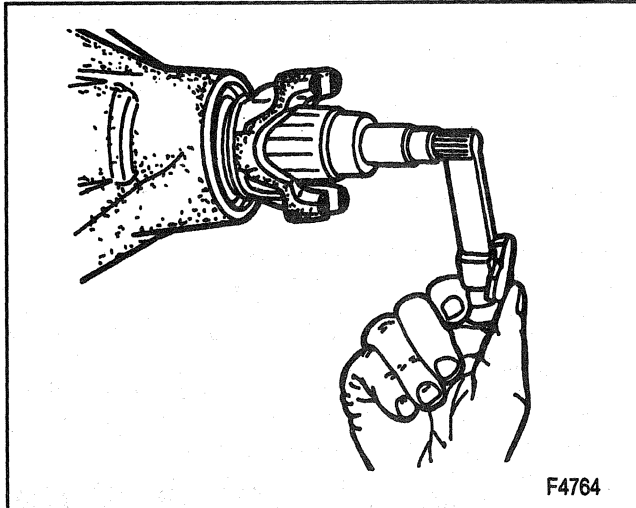

Figure 14—Measuring the Pinion Rotating Torque
Remove or Disconnect (Figures 14 through 17)
- The torque required to rotate the pinion. Record the torque value for reassembly (Figure 14).
Remove or Disconnect (Figure 14)
Install or Connect (Figure 14)